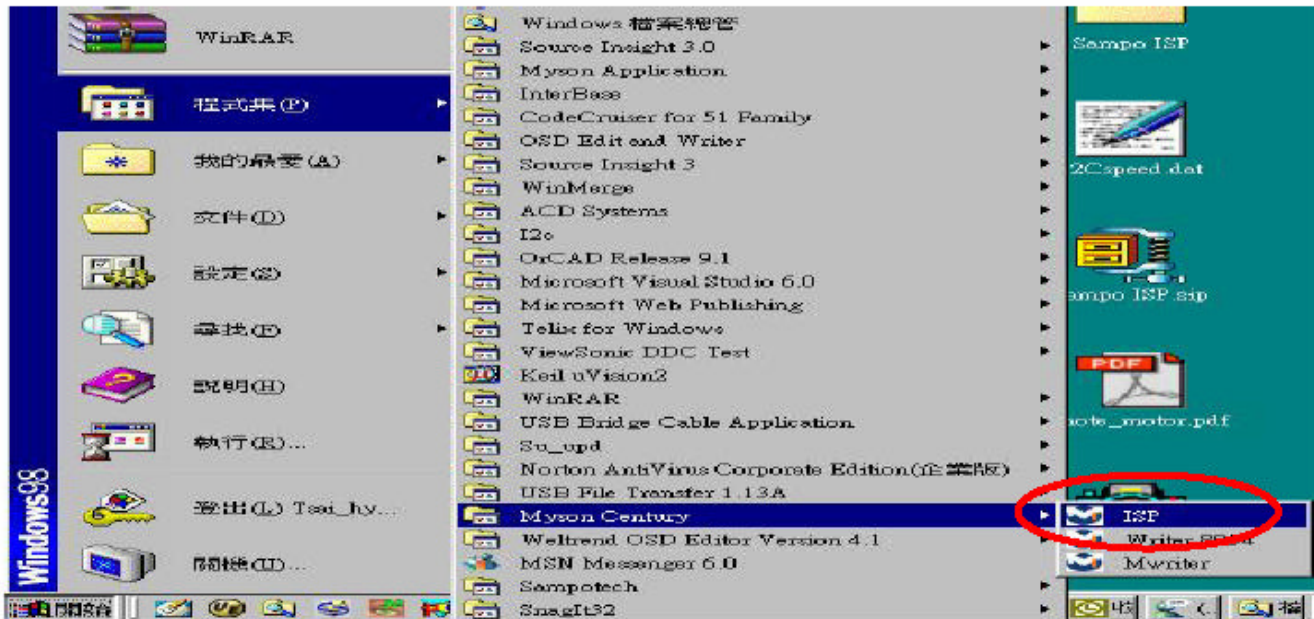

Fig 2.1
2.1 After installation , we could find the shortcut in the setting path or the program bar (default setting) , see Fig 2.1 .